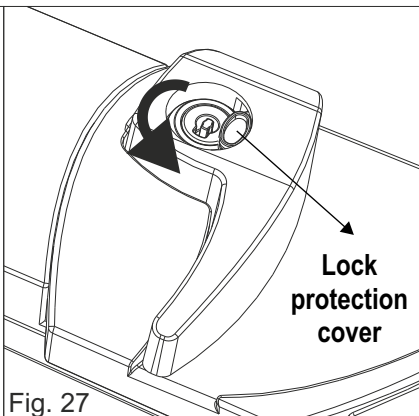

Fig. 27
- 1) Turn counter-clockwise the lock protection cover (Fig. 27)